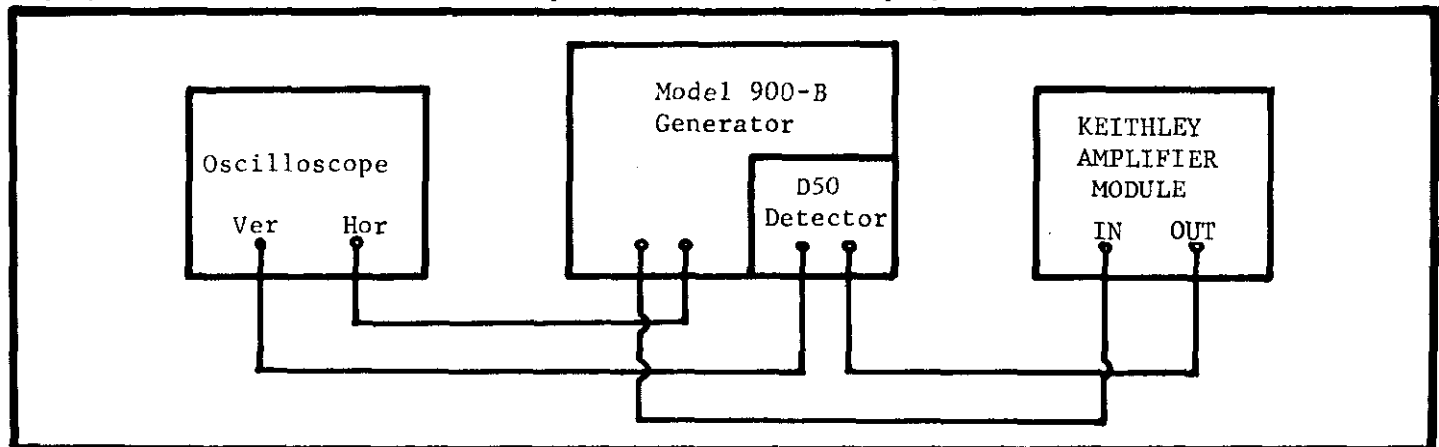

FIGURE 7. Block Diagram for Model 108 High-Frequency Calibration. Refer to Table 3 for equipment.
a. Remove the Amplifier by removing the four screws. Connect the Amplifier to the Model 1081 Power Supply. Connect the Model 900-B Sweep Generator to the Amplifier INPUT directly. See Figure 7. Connect the Amplifier OUTPUT to the Model D50 Detector.